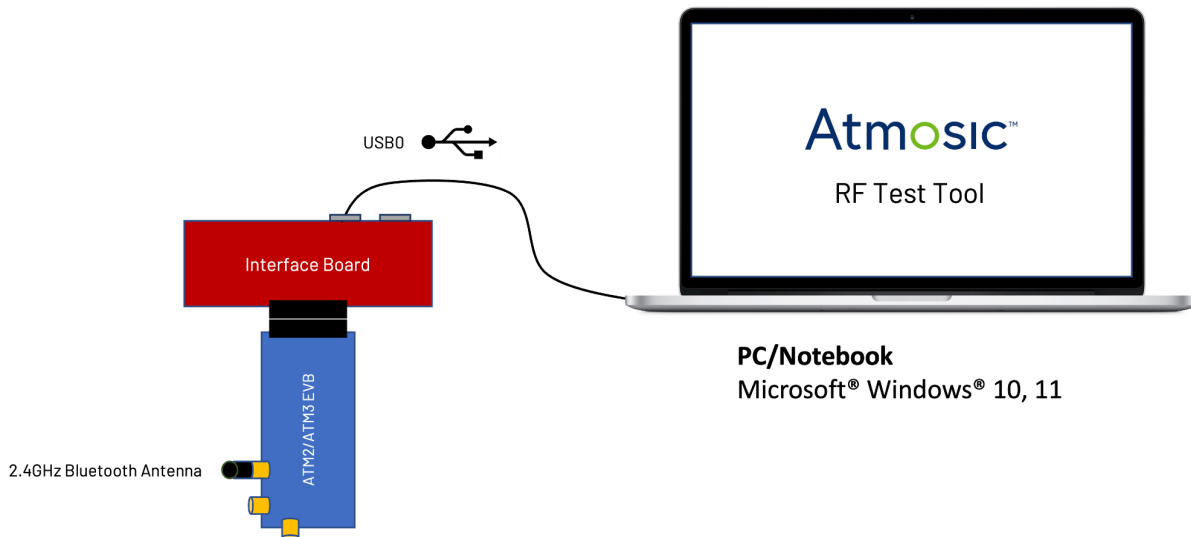

Figure 1 - RF Test Tool Hardware Environment for the ATM2/ATM3
- Figure 1 - RF Test Tool Hardware Environment for the ATM2/ATM33
Figure 1 shows the connection setup between the PC, Interface board, and EVK for the ATM2/ATM3.